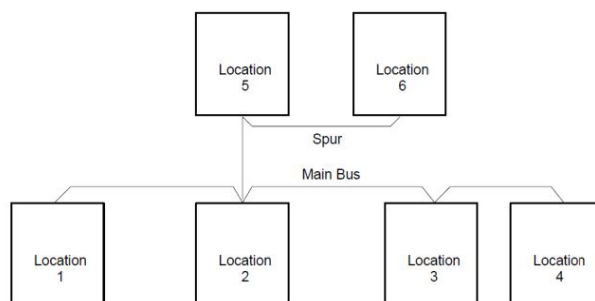
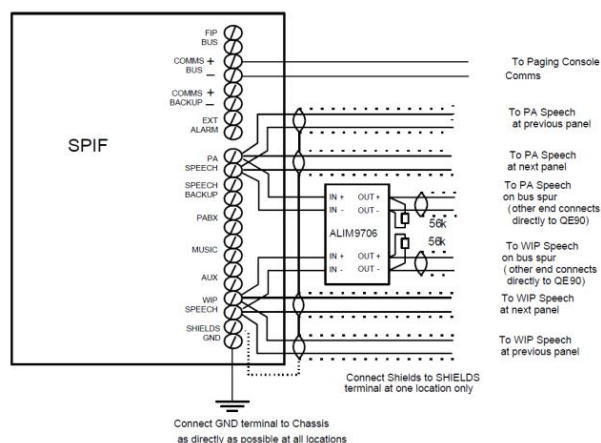

Figure 4 - Typical EWIS Network System (with Spur)
Figure 5 - Use of EWIS-ALIM at EWIS Network Spur
- ✓ To allow spurs on the WIP speech and PA speech buses in a networked EWIS system. (Refer to Fig. 4 and 5 below.)
Figure 5 shows in more detail the wiring of the EWIS-ALIM at the location where the spur joins the main bus (Location 2 in Figure 4). Other locations will not have a spur and so will not require the EWIS-ALIM.